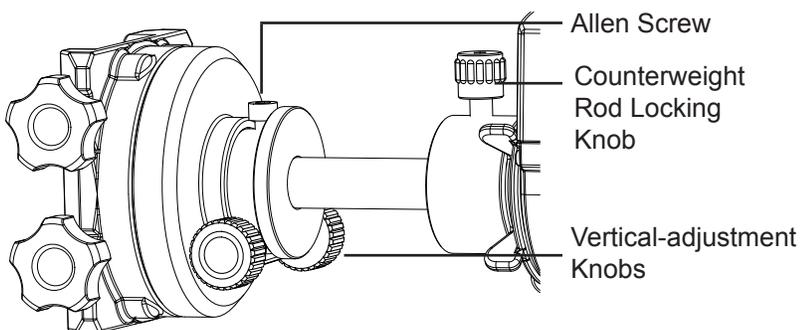

Fig. 2.5a
2. Loosen the Allen screw on the saddle's silver ring and push the saddle onto the counterweight rod, as shown in Fig. 2.5a. Align the Allen screw to the flat surface on the counterweight rod.
8. Aim the main telescope at a distant object, and then adjust the two vertical adjustment knobs (Fig. 2.5a) on the secondary saddle to point the secondary telescope to the same horizontal level of the distant object.